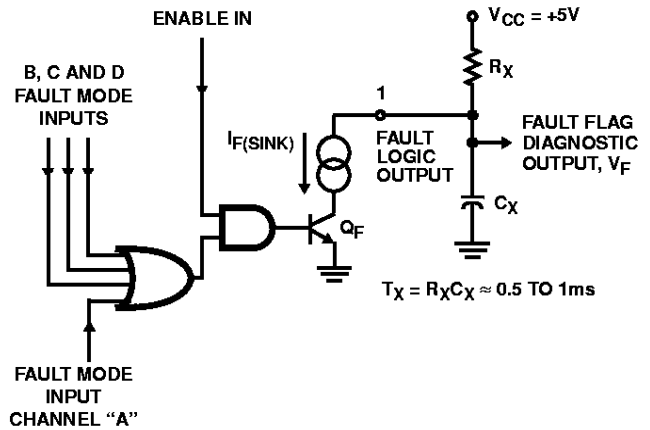

FIGURE 2. EXTERNAL FAULT OUTPUT CIRCUIT AND I_{F(SINK)} AS FAULT SINK PULLDOWN CURRENT, WHICH IS ACTIVATED BY TRANSISTOR, Q_F, WHEN A FAULT EXISTS
- The I_{OL} value of "Output Low Current, $I_{F(SINK)}$ " at the FAULT pin is both the static leakage of the output driver Q_F and the current sink, $I_{F(SINK)}$. The current sink is active only when a fault exists. When no fault exists, the I_{OH} current at the FAULT pin is the maximum leakage current, $I_{F(LK)}$. Refer to Figure 2 for an illustration of the FAULT output and associated external components. Refer to FAULT LOGIC TABLE for Fault Modes.
- The Voltages, V_{HTHD} , V_{LTHD} are the comparator threshold reference values (Min. and Max. Range) sensed as a high and low state transitions for voltage forced at the outputs. V_{HTHD} indicates an open load fault when the output is decreased to less than the threshold. V_{LTHD} indicates a shorted load when the output is increased greater than the threshold. The output voltage is changed until the FAULT pin indicates a Low (Fault). Refer to Figure 2 for test value of external resistor. Refer to I_{OL} and I_{OH} FAULT PARAMETERS Test Limits to determine V_{OL} and V_{OH} at the FAULT pin.
Since a diagnostic flag indicates when an output is shorted, this information can be used as input to a microprocessor or dedicated logic circuit to provide a fast switch-off when a short occurs and, by sequence action, can be used to determine which output is shorted. A fault condition in any output load will cause the FAULT output to switch to a logic "low". Since a fault condition may be detected during switching, use of an appropriate size capacitor to filter the FAULT output is recommended. The recommended FAULT output circuit is shown in Figure 2. This will prevent the FAULT output voltage from reaching a logic level "0" within the maximum switching time.
The FAULT output diagram of Figure 2 shows the circuit component interface for sensing a diagnostic fault condition. As noted, the time constant of $T_X = R_X C_X$ should be greater than the ON-OFF output switching times to avoid false fault readings during switching. For applications requiring fast period repetition rates, the maximum time constant should be significantly less than the period of switching. The shortest practical time constant is preferred to limit the duration of a fault condition.